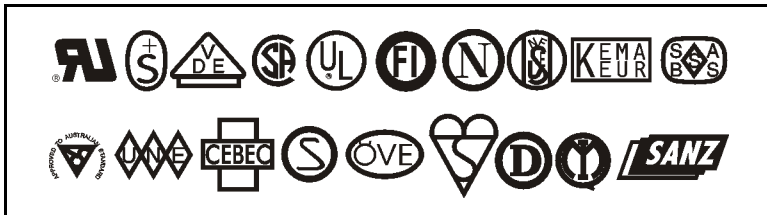

Figure 36
- The AC power plug and IEC 320 connector must bear the certification mark of at least one of the known international safety organizations shown in Figure 36.